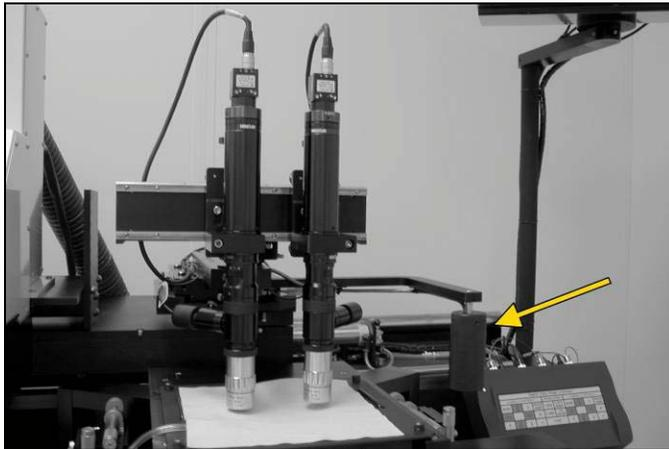

Figure 9-11 Top side optics joystick
STEP 8- Align the substrate. Because this is a top side exposure only the top side alignment optics will be used. The optics cameras can be maneuvered using the joystick on the right side of the apparatus (Figure 9-11). On the back of the joystick there will be two buttons. Holding the bottom button down allows movement of the optics in the X direction (i.e. left and right). To move in the Y direction press the top button down and the system will only move forward and backward. If both are held down at the same time the optics will move whichever way desired. If the substrate is anything other than 4 inches it may be necessary to adjust the X distance between the optics cameras. To do this, manually unscrew the cameras and slide them inward or outward so that they are at an acceptable distance. To change the theta angle of the cameras use the theta micrometer located on the back of the optics. The DVPG LEFT unit only controls the left (top and bottom) optics and monitor. The DVPG RIGHT unit only controls the right optics and monitor. If it's necessary to see both top side camera images in the monitors, press the 1